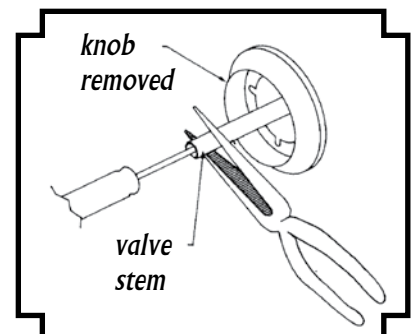

Figure 14-2 - Adjusting brass burner low heat setting.
- 4) While holding the valve shaft with pliers, insert a thin flat tipped screwdriver into the shaft and while viewing the burner, adjust to a minimum stable flame (see figure 14-2).